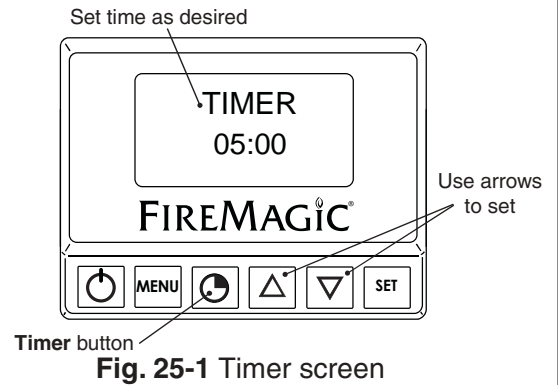

Fig. 25-1 Timer screen
1. Press the timer button. Use the arrows to set the desired amount of time (see Fig. 25-1.)